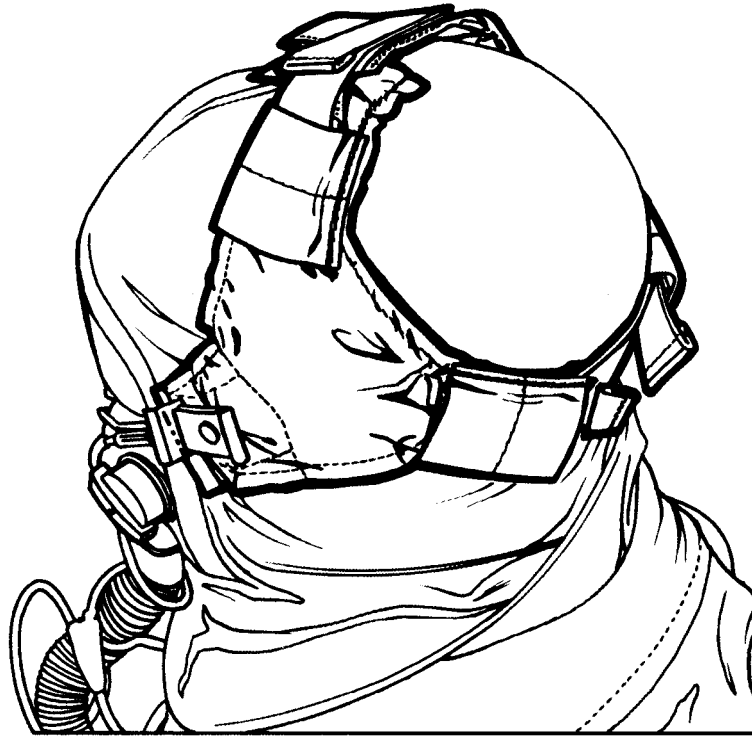

Figure 8-1. CB Head Harness
8-2. The CB Head Harness (P/N 1774AS601-20) (figure 8-1) is a fabricated assembly that serves as a solution for non-helmeted mask retention. It is used with the A/P22P-14(V) Chemical Protective Respirator Assembly. The CB Head Harness is a fully adjustable webbing system that is worn on the head. One size can accommodate all head sizes.